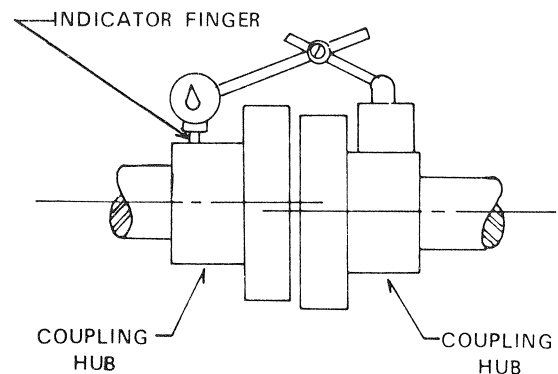

FIGURE 2-10 TESTING PARALLEL ALIGNMENT OF MOTOR AND GENERATOR SHAFTS
2.12.4 Check for parallel shaft (run-out) alignment by scribing a reference mark on the ground or machine diameter of the coupling hub at the finger or button of the indicator. Rotate both shafts simultaneously, keeping the button or finger of the indicator at the reference mark on the hub. Note the reading on the indicator dial at each one-quarter revolution. Refer to figure 2-10 for test setup.